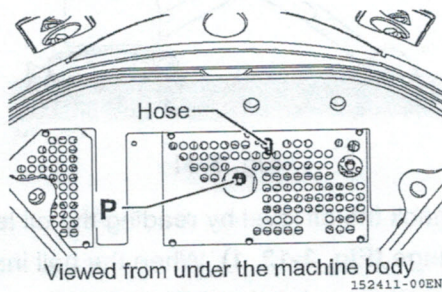

Fig. 3-7
- 1-Remove the drain plug (Fig. 3-7, P) and drain the excessive amount of engine oil.
- 2-Tighten the drain plug (Fig. 3-7, P).